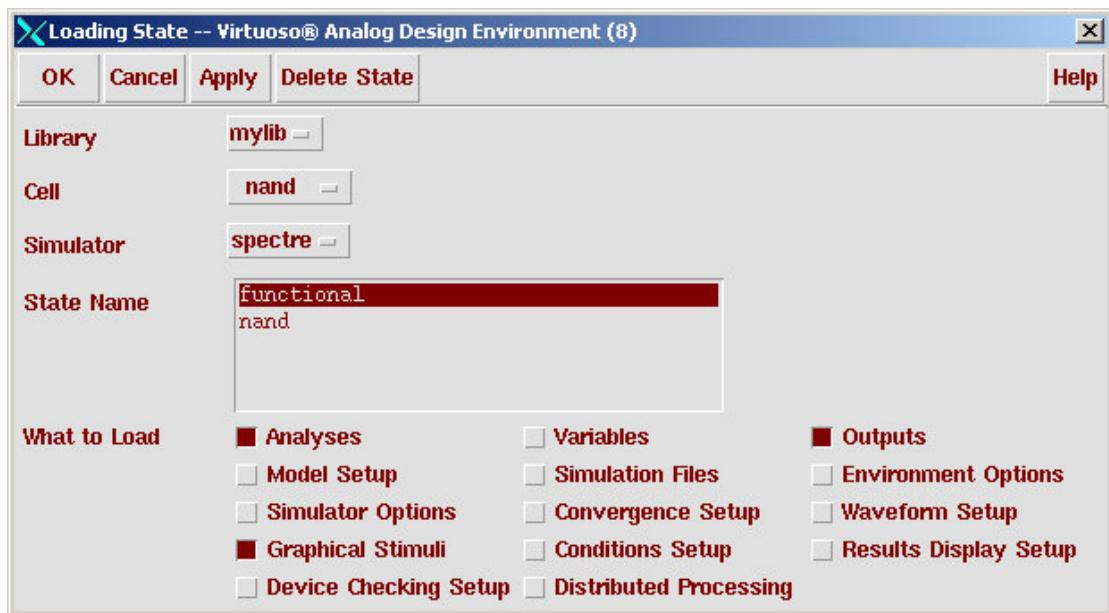

Figure 63. Setup Analog Stimuli Window
4. Verify the **State Name** is **functional** and select **ONLY Analyses, Graphical Stimuli, and Outputs** as shown in Figure 63. Click on **OK**.